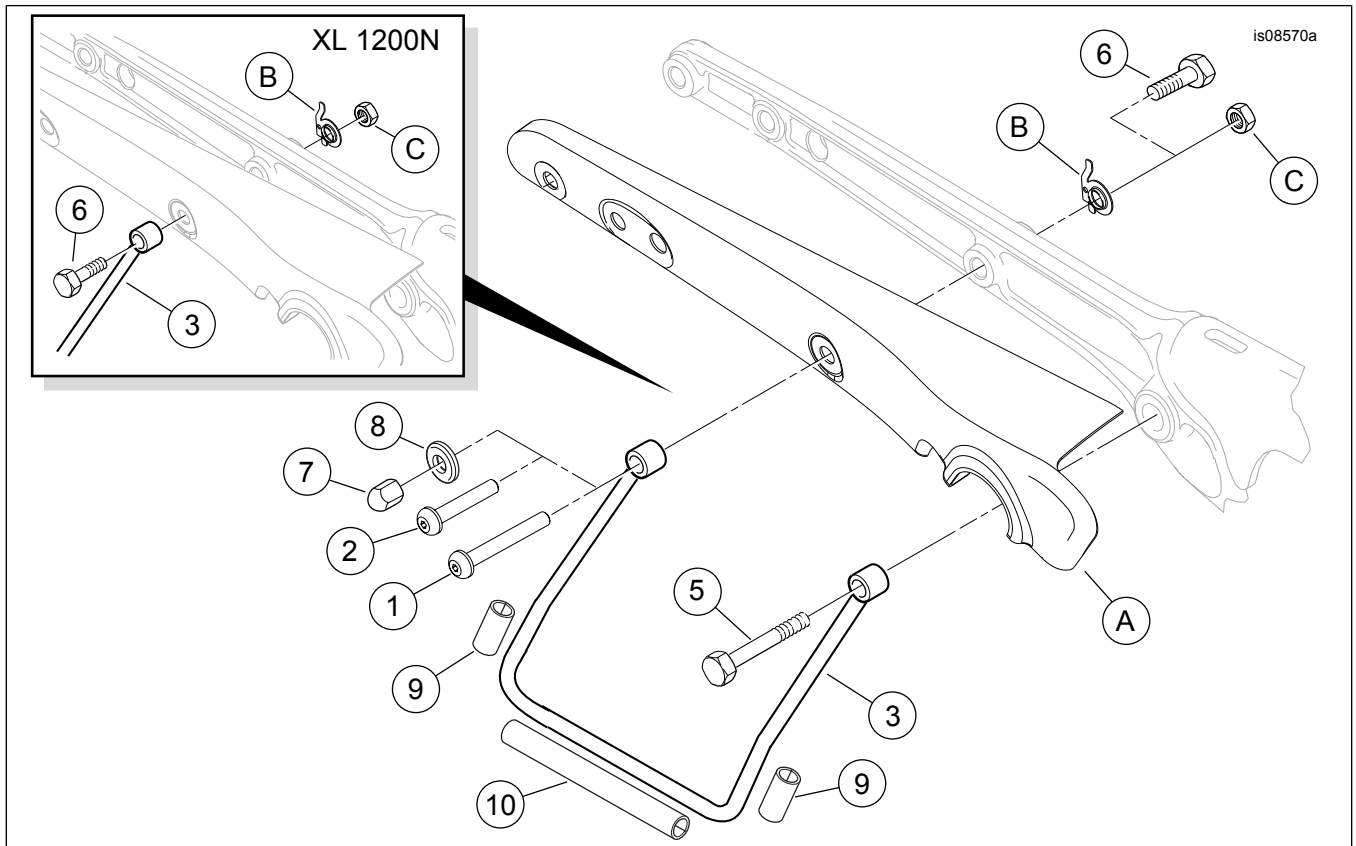

Figure 3. Service Parts, Saddlebag Support Kit
See Figure 3 and Table 1.
4. See Figure 3. Position the support bracket (3) with the front mounting hole over the shock absorber stud and the rear mounting hole over the hole in the fender support.